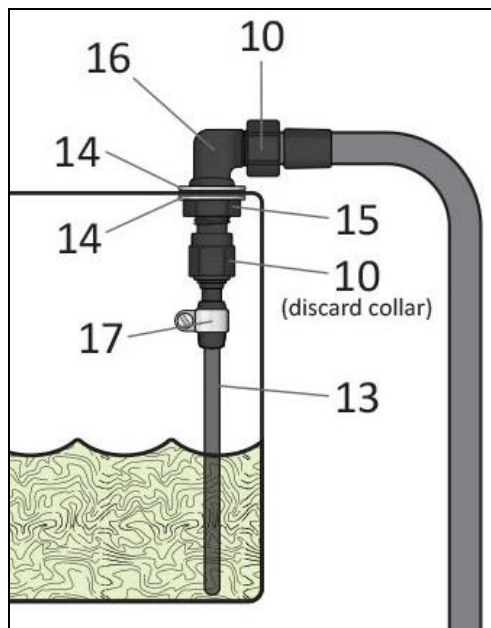

Figure 44
1. Choose an ideal location for the bulkhead fitting to be installed. The fitting must be installed through a flat surface where the nut can be tightened from the bottom. It must also be installed in a location where the fuel cuff will not interfere with the sending unit float. If possible, we strongly recommend removing, cleaning, and drilling into the sending unit. The fitting must be oriented as shown below in **Figure 44**. The item numbers from section 27.1 are referenced.
7. Screw fuel cuff assembly to bottom of bulkhead nut and snug with a wrench. Ensure bottom of cuff will be submerged in fuel as shown in **Figure 44**. Cuff can be trimmed if necessary.